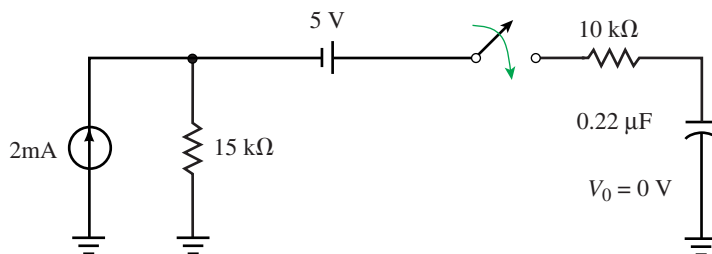

FIGURE 11–70
51. **PSpice** The switch of Figure 11–70 is closed at $t = 0$ s. Plot voltage and current waveforms. Use the cursor to determine v_C and i_C at $t = 10$ ms.
53. **PSpice** Use PSpice to solve for voltages and currents in the circuit of Figure 11–61. From this, determine the final (steady state) voltages and currents and compare them to the answers of Problem 35.